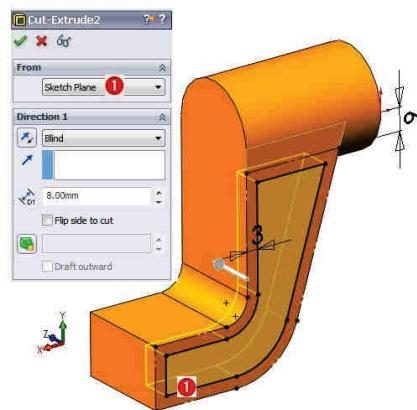

Fig. 2.5
**5 Trasare decupare 3 mm:** Comanda Sketch – Fig. 2.5 – plan ①.
**6 Extrudare contur decupare 3 mm:** comanda Extruded Cut – Fig. 2.5 - Blind /  $\Delta_{D1}$  8 mm distanță /  $\checkmark$ .
**5 Sketching of the 3 mm cut contour:** The Sketch command – Fig. 2.5 – plane ①.
**6 Extrusion of the 3 mm cut contour:** the Extruded Cut command - Fig. 2.5 – Blind /  $\Delta_{D1}$  8 mm distance /  $\checkmark$ .